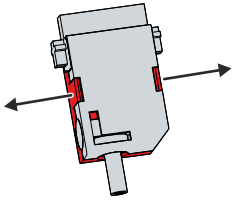

Fig. 15: Disassembly of the strain relief housing
1. Use your fingers to bend the latching lugs on the lower part slightly outwards (see Fig. 15).